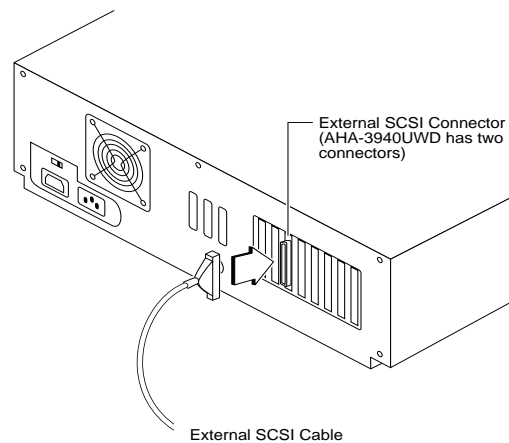

Figure 2-9. External Cable to Host Adapter
- 1 Attach one connector of the external SCSI cable to the external SCSI connector, as shown in Figure 2-9.